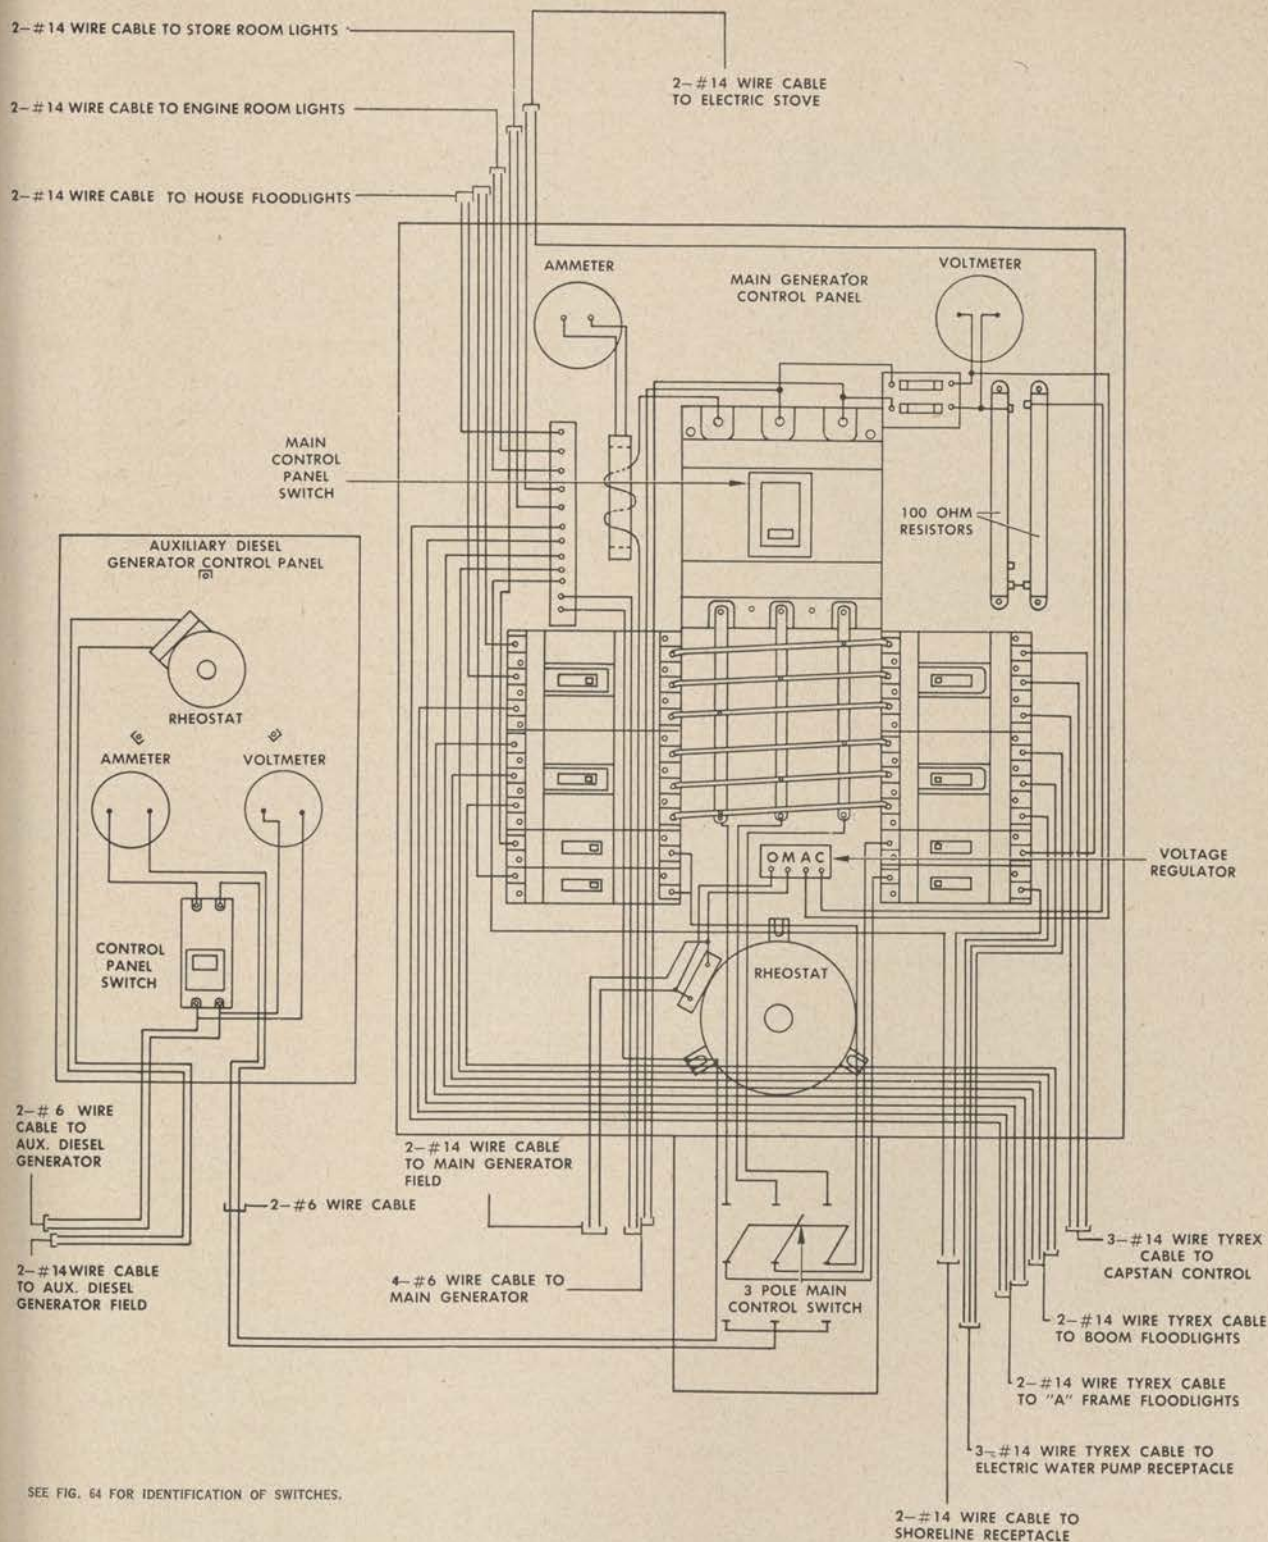

Figure 250. Wiring diagram—control panels.
a. GENERAL. (1) Electrical energy for the barge derrick is developed by the main generator when the main engine is in operation, and by the auxiliary Diesel generator set when the main engine is shut down. Current for the equipment is distributed by four units: main generator control panel, auxiliary generator control panel, main switch, and shore line.
(2) The major electrical systems in the barge derrick consist of barge lighting and electrical accessory system operating from 120 volts, capstan electrical system operating from 208 volts, and floodlight and deck pump system operating from 208 volts.
(3) With the main generator in operation, all three systems are supplied. Control is through the main generator control panel. With the auxiliary Diesel generator in operation, only the 120-volt barge lighting and electrical accessory system (refrigerator and galley) is supplied. Control remains through the main generator control panel switches.
(4) A three-pole double-throw main switch is mounted below the main generator control panel. It is the fully enclosed, safety type and the enclosure cannot be opened until the handle is in the OFF position. One side of this switch is connected to the main generator and the other side is connected to the auxiliary generator. (See fig. 250.)